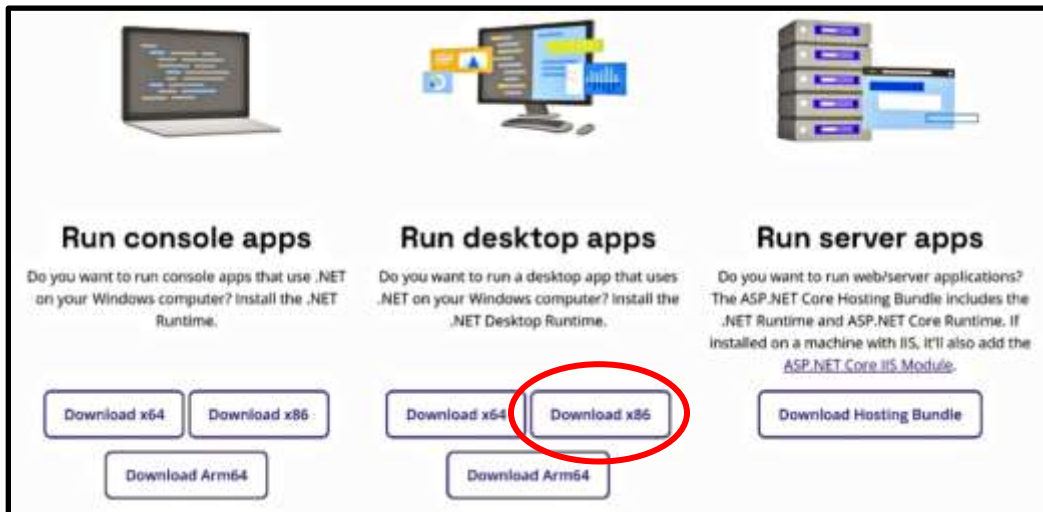

Figure 4 The .Net download screen. For best results select x86
2. From the “Run desktop apps” selection, click the “Download x86” version (Figure 4). As SDR# is a 32 bit application, there have been problems with the 64 bit version of .NET; the 32 bit “x86” version has been more reliable.